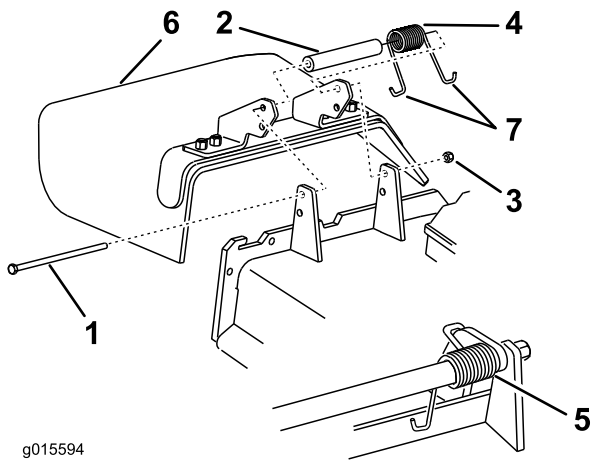

Figure 104
1. Remove the locknut, bolt, spring and spacer holding the deflector to the pivot brackets (Figure 104). Remove the damaged or worn grass deflector.
Note: Make sure one **J** end of the spring is installed behind the deck edge before installing the bolt as shown in Figure 104.
3. Install the bolt and nut. Place one **J** hook end of the spring around the grass deflector (Figure 104).